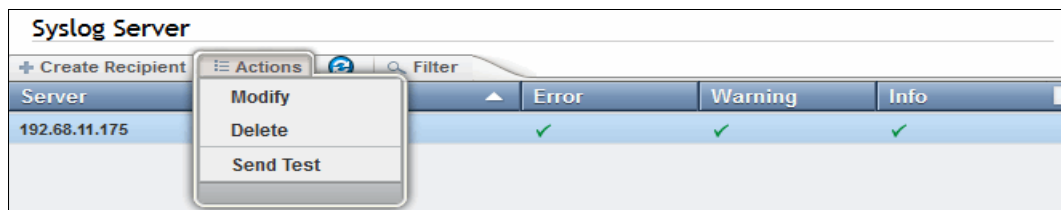

Figure 5-119
3. After the syslog server is set, you can use the **Actions** menu, as shown in Figure 5-119. You can modify, delete, or send a test to the IP address of a syslog server.